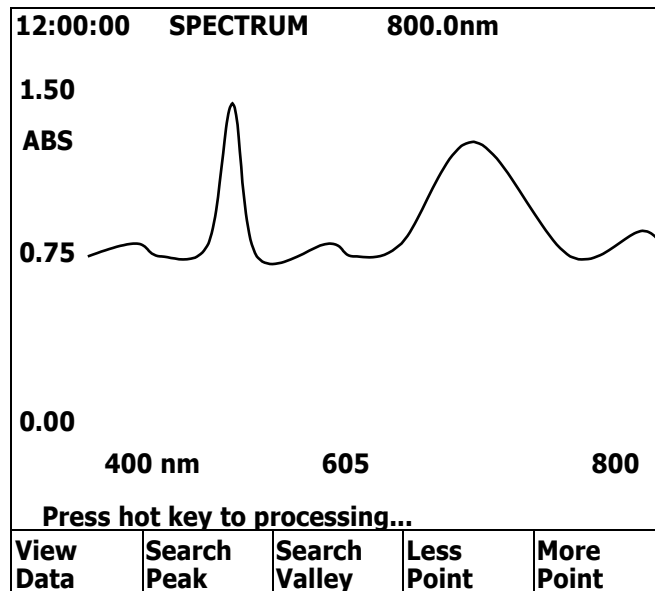

Figure 6.8 Searching peaks of the spectrum
Step 9. In the Spectrum screen, pressing function Manipulate and then function Peak Valley will get into the mode that peaks and valleys of the graph can be picked up automatically. In this searching mode, pressing F2 Search Peak will mark all peaks in the graph (Figure 6.8). Functions F4 and F5 will let users to adjust the number of points being picked. Detailed data of those points can be